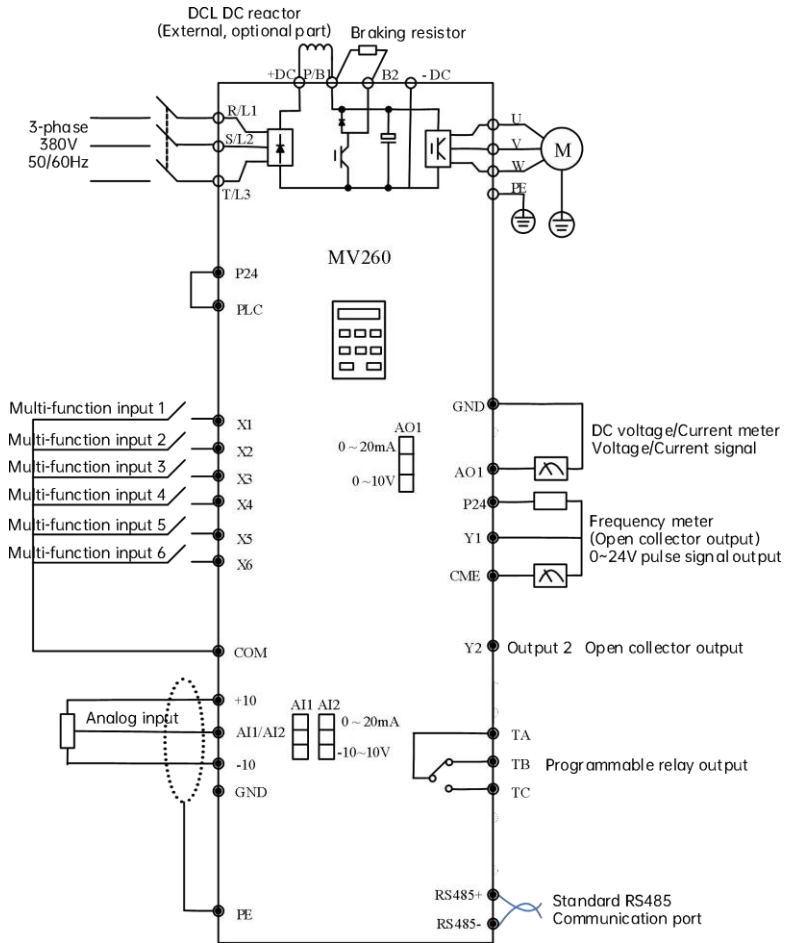
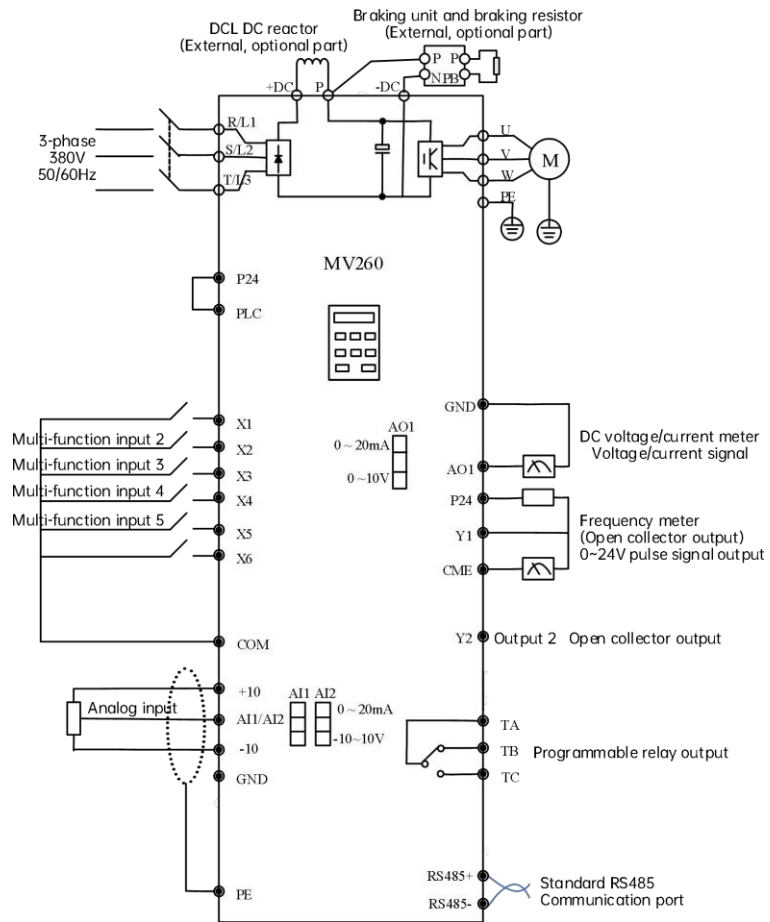

Fig.3-3 Basic wiring diagram 1
Fig.3-4 Basic wiring diagram 2
- (1) For AI1 and AI2, the input voltage signal or the current signal can be selected via the jumper. The function code P10.00 shall be change after the hardware jumper finished selection to ensure the correct input signal.
- (2) AO1 can select the output voltage signal or current signal by jumper, and the output range is determined by function code P10.22.
- (3) If external braking components need to be configured, the braking unit and braking resistor shall be used. Please pay attention to the positive and negative polarity when connecting the braking unit.
④ “○” in the figure is main circuit terminal and “●” in the figure is control circuit terminal.
(5) For the usage of the control circuit terminal, please refer to section 3.2.
(6) Fig.3-3 is the wiring diagram for basic operation of model 75kW and below, Models include models with standard built-in brake unit and models with non-standard customized built-in brake unit. For details, please refer to Table 1-5. Fig.3-4 is the wiring diagram for basic operation of model 90kW and above. Special attention should be paid to these models: 355kW, 400kW, the main circuit terminal of external braking unit is P, N.